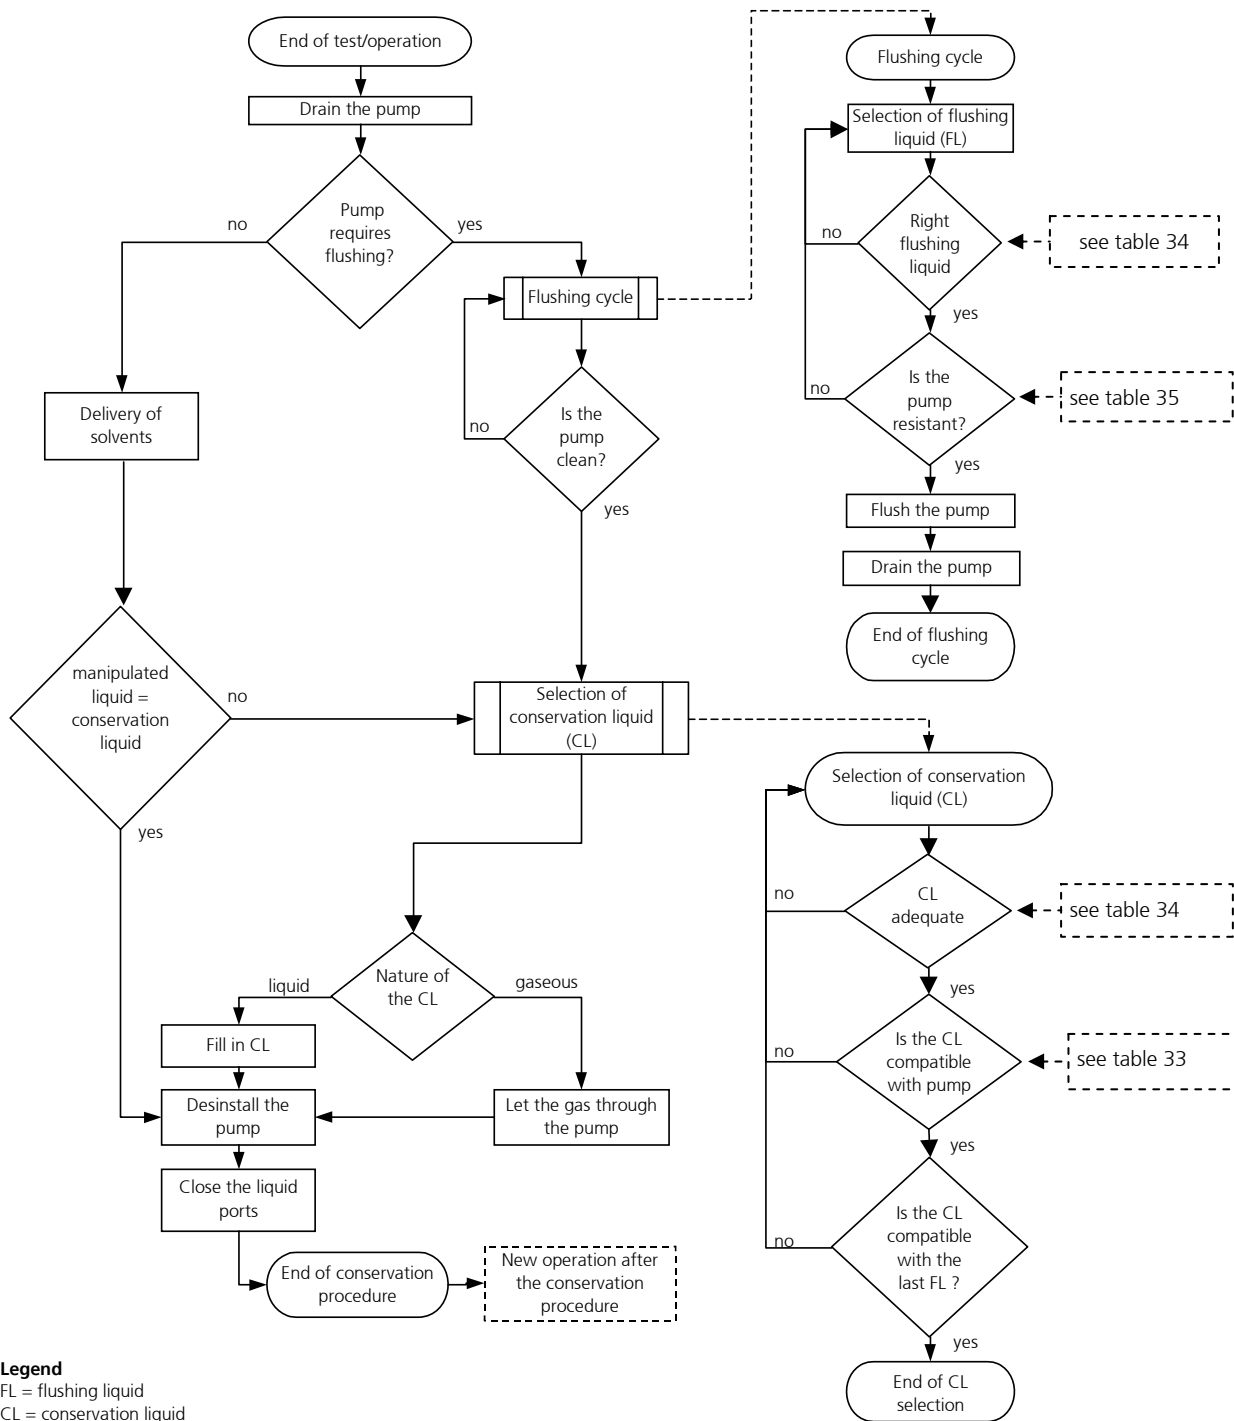

figure 31 Shutdown procedure
By proceeding as shown in the diagram (see figure 31) you may prepare the pump for a longer standstill.
*Remark:* This diagram is repeated as a part of the figure 31 »Shutdown procedure«.